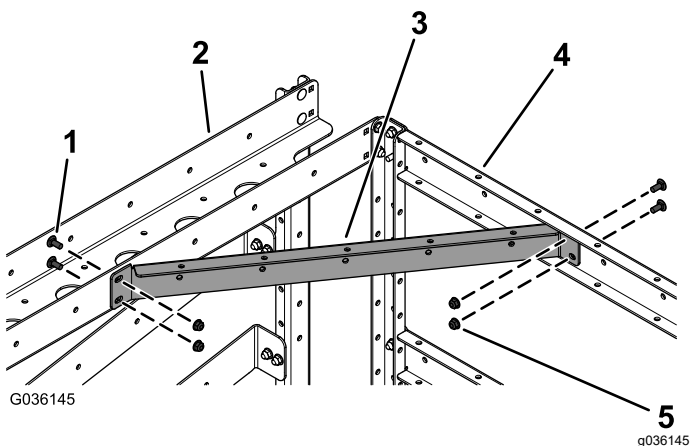

Figure 8
7. Install the cross-support bracket to the front support bracket (with 2 holes on each side) and pipe bracket with 4 carriage bolts (5/16 x 3/4 inch) and 4 flange nuts (5/16 inch) as shown in Figure 8.